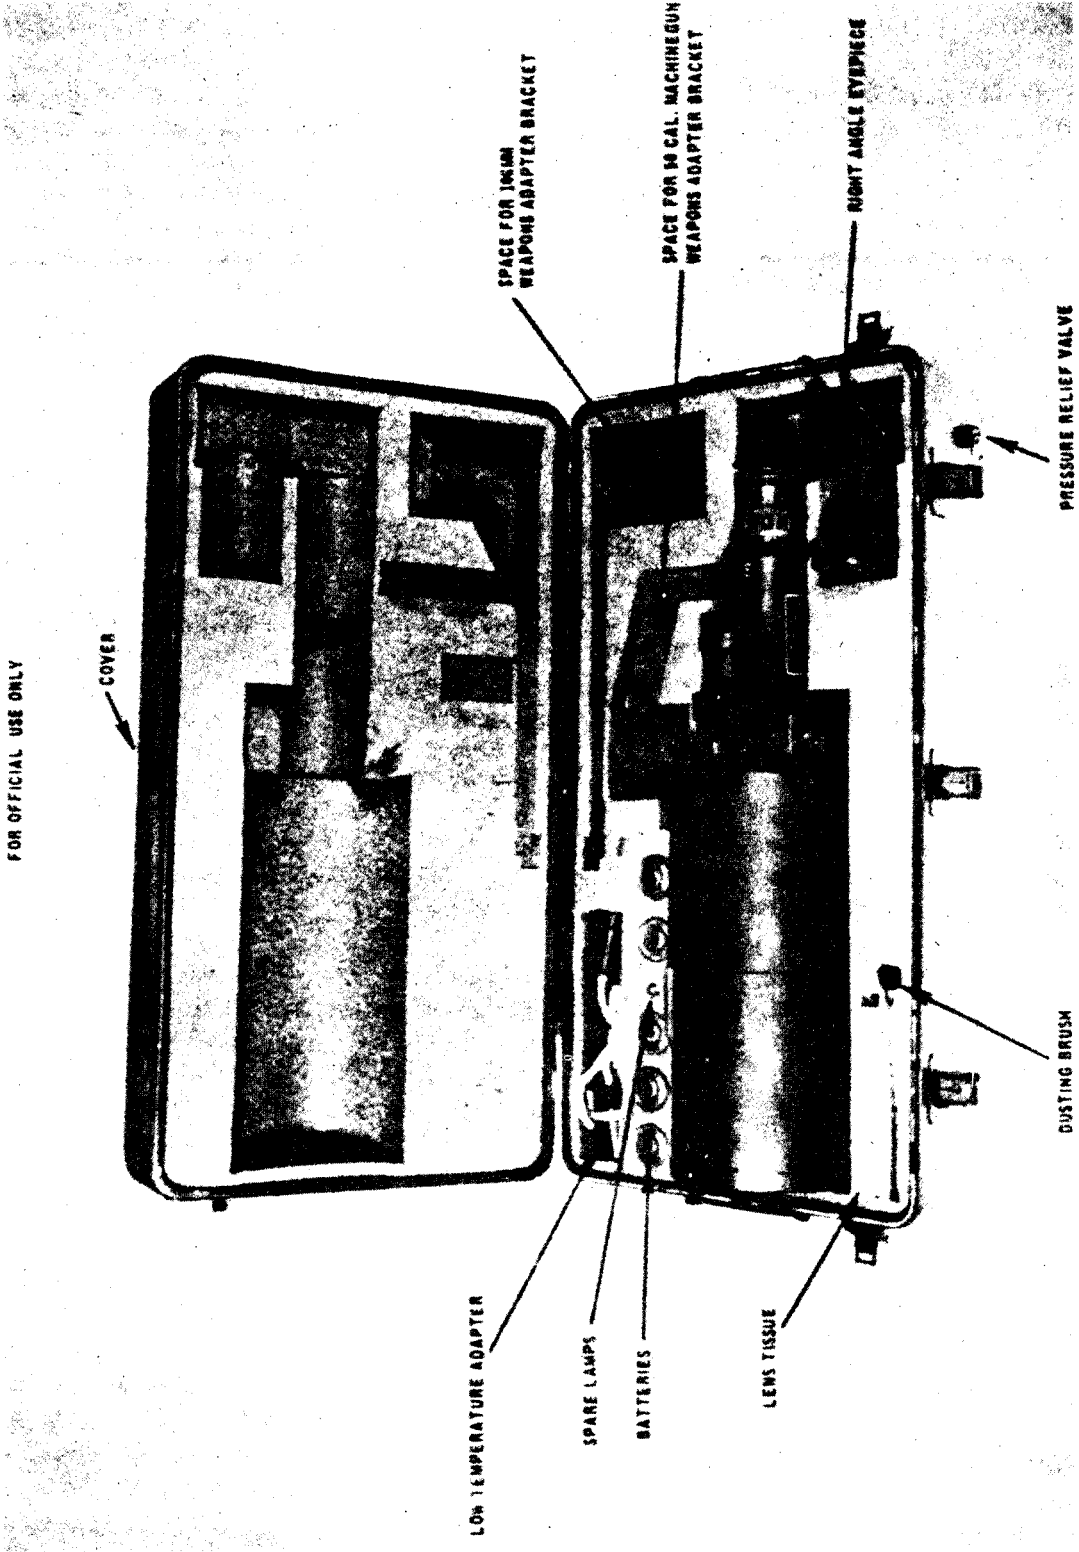

Figure 1. Carrying case with components.
b. Carrying Case. The carrying case is a metal container (fig 1) designed to carry the Sight, in-line and right angle eye pieces, dusting brush, lens tissue, low temperature adapter, two spare lamps, five batteries, and weapons adapter brackets for the Browning machinegun caliber .50 HB M2 and the 106-mm recoilless rifle M40A1. The case has eight latches, two carrying handles, and a pressure relief valve. Foam rubber liners are provided for protection of the Sight and its components. The carrying case with liners allows the Sight to be